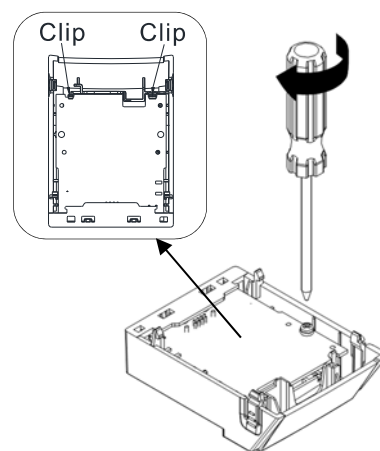

Figure 8-28
3. Make sure that two clips at the backside are properly engage the option card, and then fasten the screws [Suggested torque value: 4–6 kg-cm / (3.5–5.2 lb-in.) / (0.39–0.59 Nm)], as shown in the Figure 8-28.